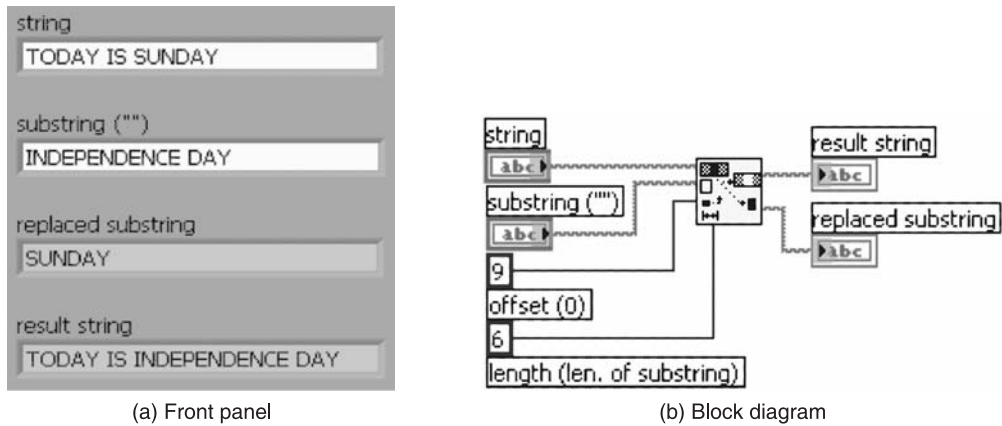

Figure P9.2
**Solution** The front panel and the block diagram to use the string function and solve the problem are shown in Figures P9.2(a) and P9.2(b).